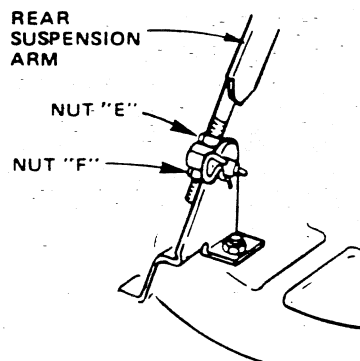

FIGURE 35
2. To raise rear of mower, loosen Nut "E" on both Rear Suspension Arms. Screw both Nuts "F" up EQUAL NUMBER OF TURNS (Fig. 35).
4. To lower rear of mower, loosen Nut "F" on both Rear Suspension Arms an EQUAL NUMBER OF TURNS (Fig. 35).